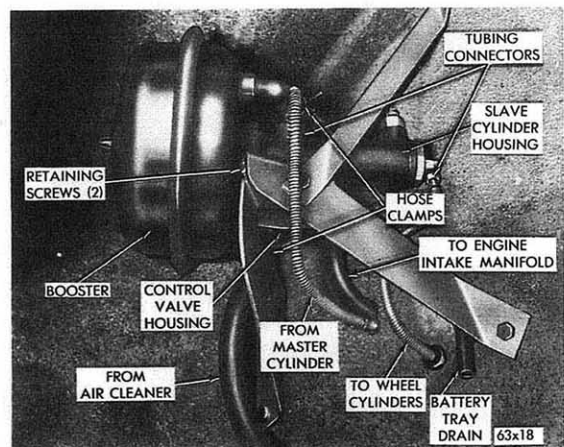

Fig. 4 - Remote Power Brake
The remote power brake system for the 300K Models is mounted on brackets under the left front fender, just back of the headlamp housing (Fig. 4). The use of the remote power brake unit enables a low brake pedal height, reduced pedal travel and decreased pedal application effort.
- (2) Open the inlet bleeder screw of the booster (closest to the master cylinder) (Fig. 4), and permit the fluid to run until free of air bubbles.
- (3) Open the outlet bleeder screw (Fig. 4) and allow the fluid to run until free of bubbles.
- (4) Bleed the wheel brake cylinders in the following sequence: Left front, right rear, right front and left rear. Repeat if necessary and inspect for leaks.